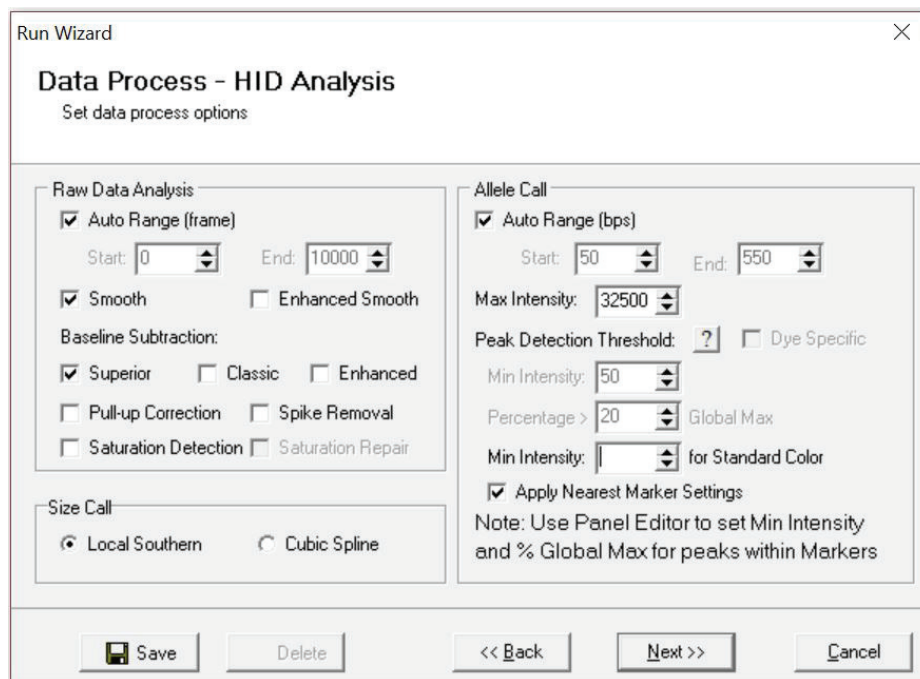

Figure 29. The 'Data Process' window for an analysis method.
9. The 'Data Process' window will appear (Figure 29). For the Raw Data Analysis, we recommend using Auto Range, Smooth, Superior Baseline Subtraction and Local Southern for the Size Call.